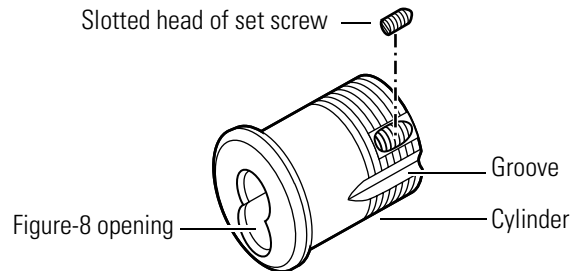
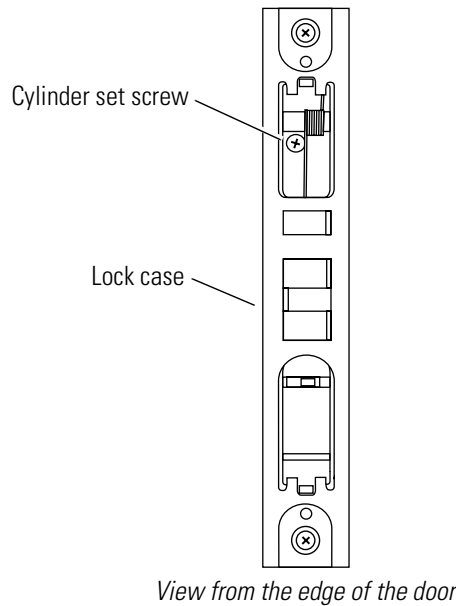

Figure 5.3 Threading the set screw
Figure 5.6 Location of the cylinder set screw (view from the edge of the door)
- a. From the outside of the cylinder, thread the slotted head of the set screw into the cylinder. See Figure 5.3.
7. Tighten the cylinder set screw, found on the inside of the lock case, into the cylinder groove (see Figure 5.3 for the location of the cylinder groove). See Figure 5.6.